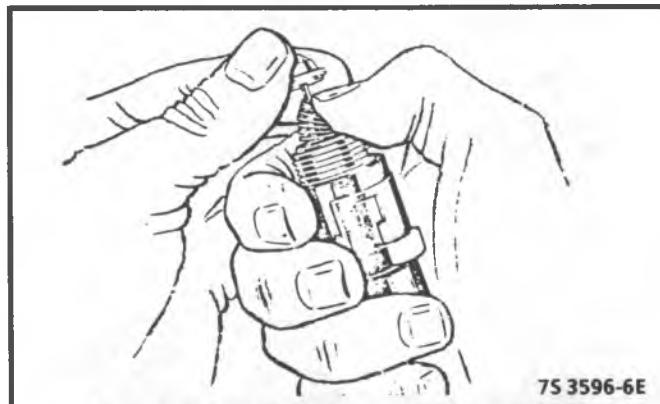
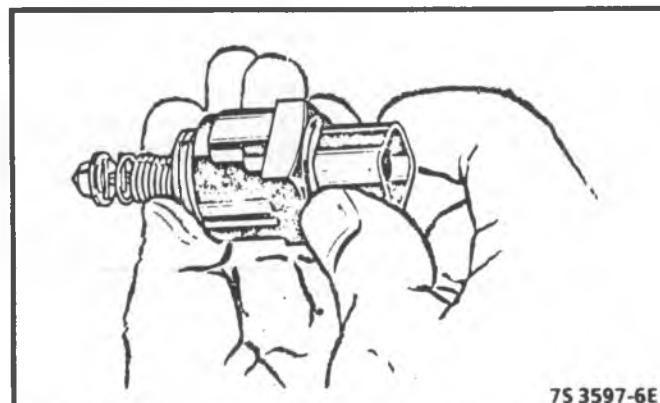

Figure 4-23 - Adjusting IAC Valve - TBI 220
Figure 4-24 - Aligning Spring Under Pintle - TBI 220
- Compress valve retaining spring, while turning valve "in", clockwise (Figure 4-23). Return spring end to its original position, with straight portion aligned in slot, under flat surface of valve (Figure 4-24).